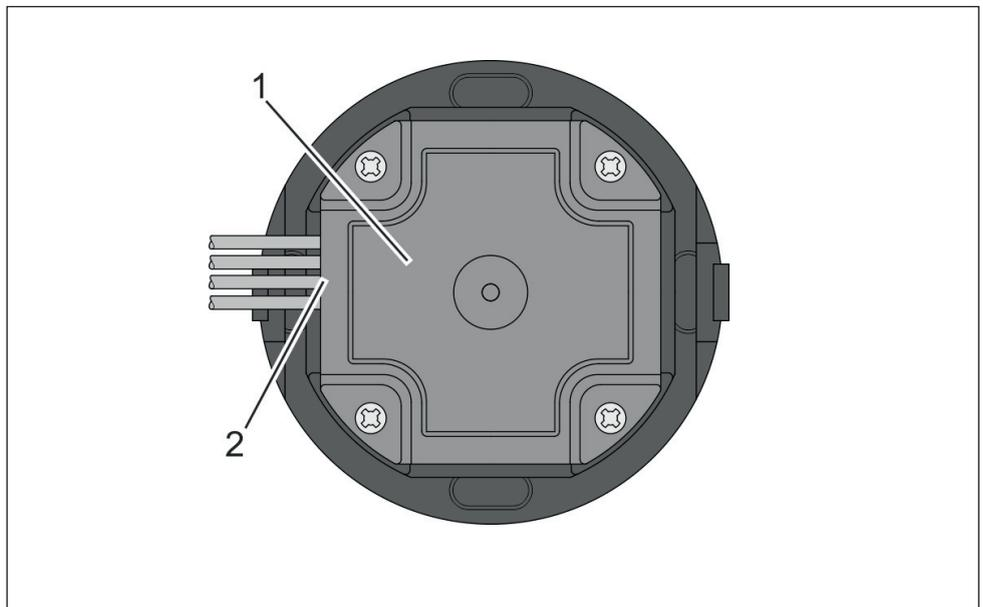

Fig. 11: Rear of WT 210 / WT 210 BLE with lead
4. Screw cover to rear of WT 210 / WT 210 BLE (fig. 11/1). Lead out the leads to the padded cable guides at the side (fig. 11/2).